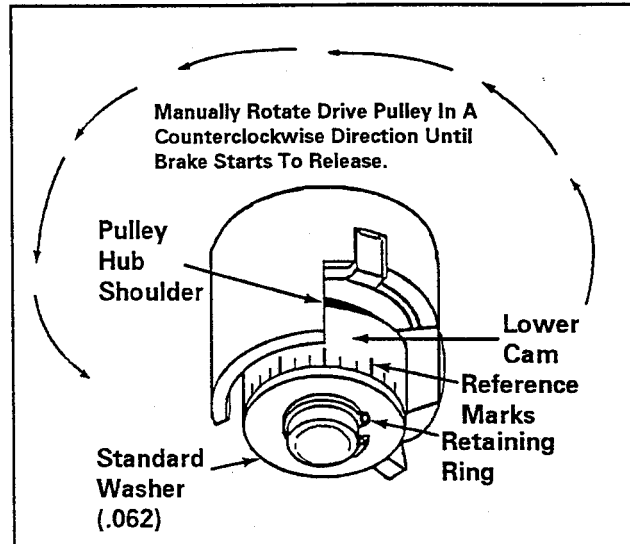

Figure 7-5
Reference marks have been molded around the bottom outer edge of the lower cam as an aid in checking the point of brake disengagement (**Figure 7-5**). Each mark, from right to left, represents approximately .010 of an inch cam rise.
1. Manually rotate the drive pulley in a slow counterclockwise direction until the brake starts to release and the transmission begins to turn (**Figure 7-5**).
2. Counting the reference marks on the lower cam from right to left, the pulley hub shoulder should be positioned between reference marks 9 and 4 with 6 being the median (**Figure 7-5**).